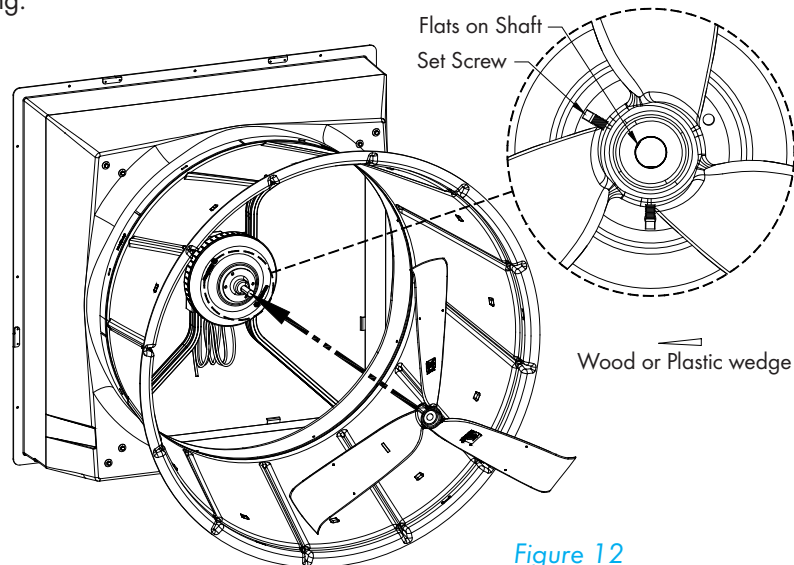

Figure 12
Install the propeller that was removed in Step 2 onto the new shaft of the Munters Drive making sure that the set screws in the propeller lines up with the flats on the shaft. Tighten the set screws to 150 in-lbs. of torque. See Figure 12. Make sure the propeller is centered in the fan orifice and spins freely. If needed the Munters Drive Kit can be pushed slightly to center the propeller. To help with centering, position propeller with 1 blade at the 12 o'clock position then use (2) wood or plastic wedge between the other 2 blades and the orifice. When the propeller is centered and can spin freely, tighten the (8) bolts holding the struts to the housing.